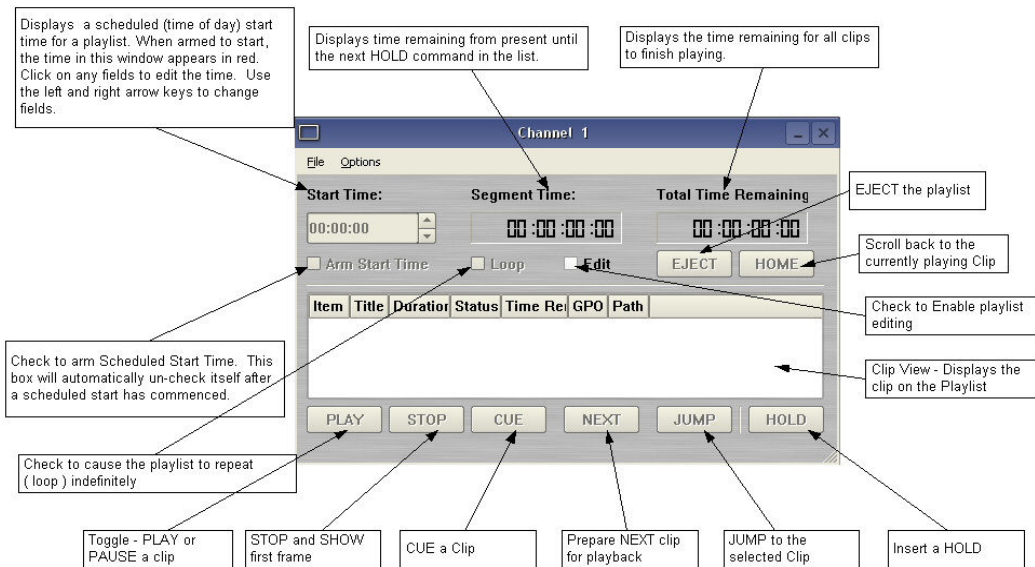

Figure 21 - Channel 1 Playlist View
The Playlist View for channel 1 is shown in Figure 21. Its functions are briefly described here. Table 1 provides an overview of Playlist control functions and their associated hot-keys.
- Change the transport for Channel 1 to the **Playlist View**. Click **FILE->PLAYLIST** in the Channel 1 transport pulldown menu. The window of Figure 21 appears.
Set a start time for a Playlist by entering a twenty four hour time of day in Hours, Minutes and Seconds in the **START TIME** field (see Figure 21). Click on any field to edit the field. Check the **ARM START TIME** checkbox to arm the start time. The **ARM START TIME** checkbox will automatically uncheck itself once the playlist has started